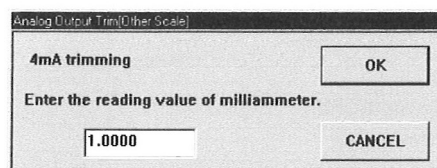

Fig.47
- ④ Begin with 1V (4mA) trim. A message box like the one shown in Fig. 47 appears.